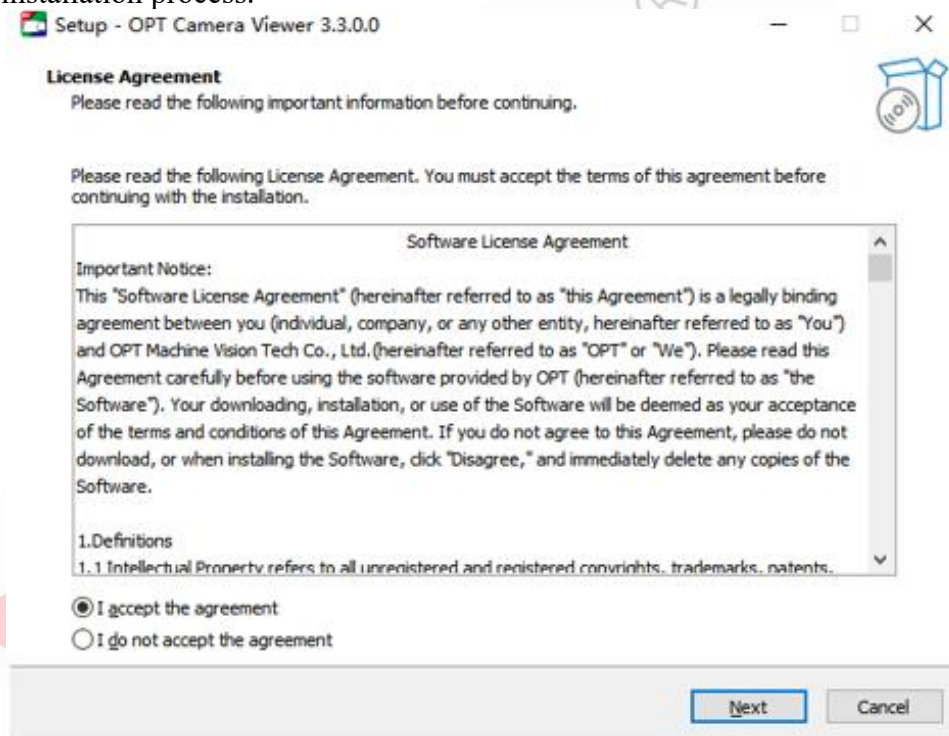

Figure 3-2 License Agreement Window
3. Wait for the window shown in Figure 3-2 to pop up and click the Next button. After carefully reading the license agreement, confirm that you agree to the license terms, and then click the Next button to continue the installation process.